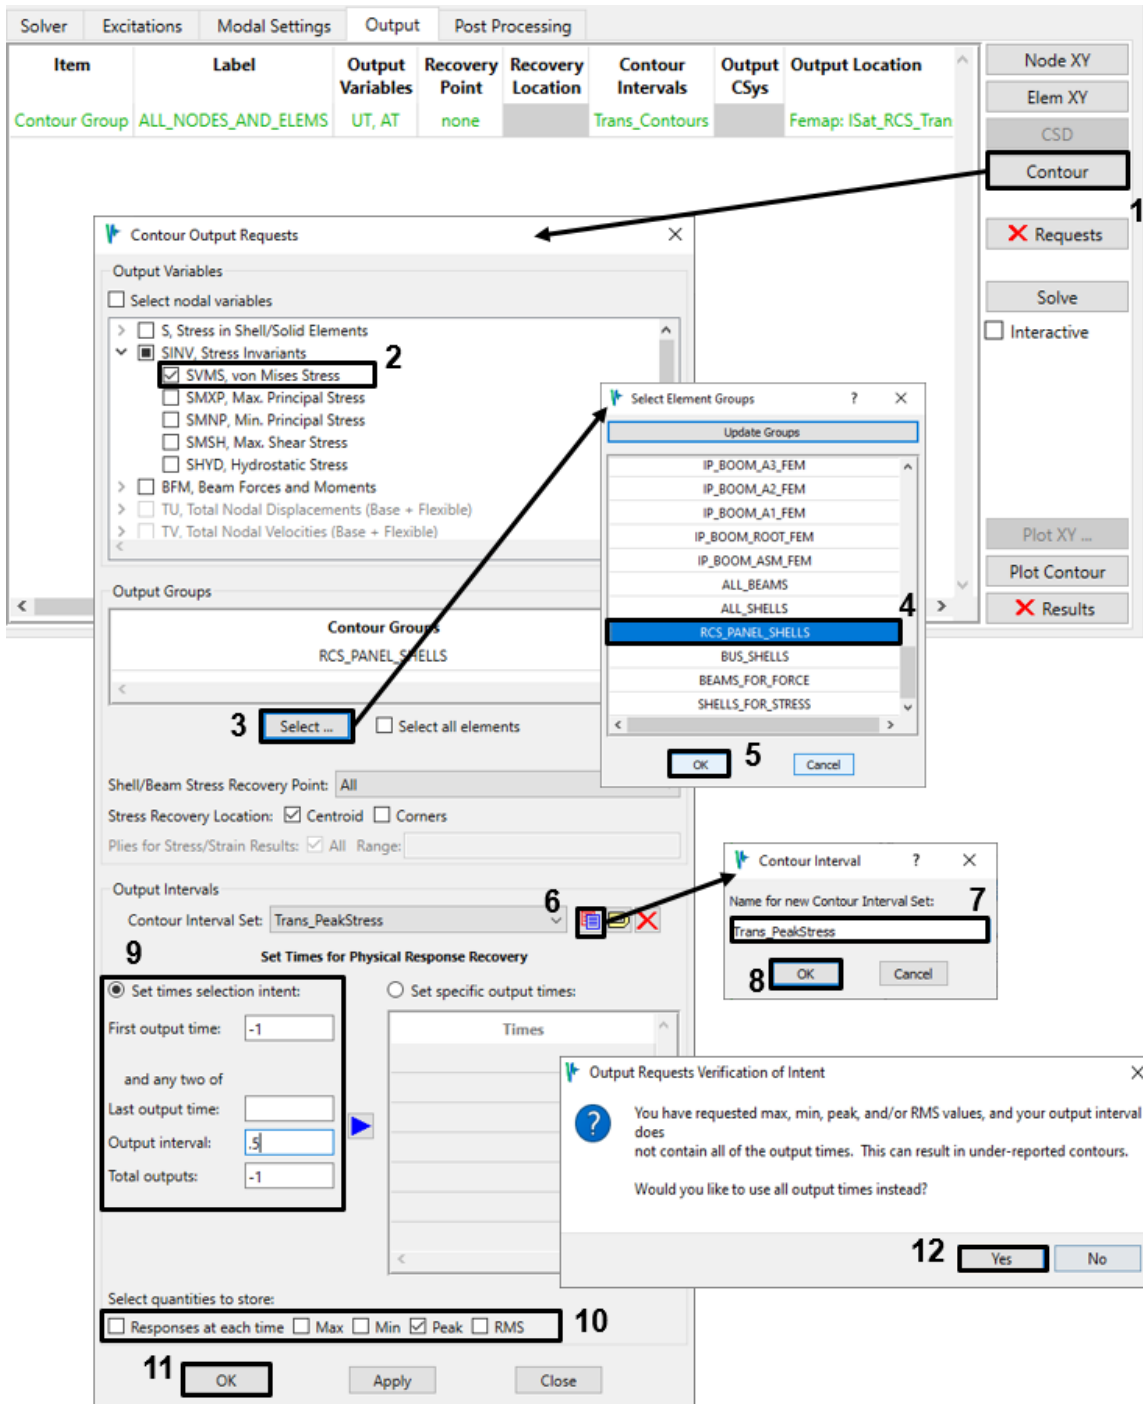

Figure 4-101. Request peak values of von Mises stress in the RCS mounting panels.
9. Create another contour request. This time ask for von Mises stress in the RCS mounting panels, but request only the peak value found in each element over the same time steps used for the displacements. You can create the new interval definition by copying the first one and then changing the settings of the **Select quantities to store** toggles (Figure 4-101). Click “Yes” to close the “Output Requests Verification of Intent” Window.